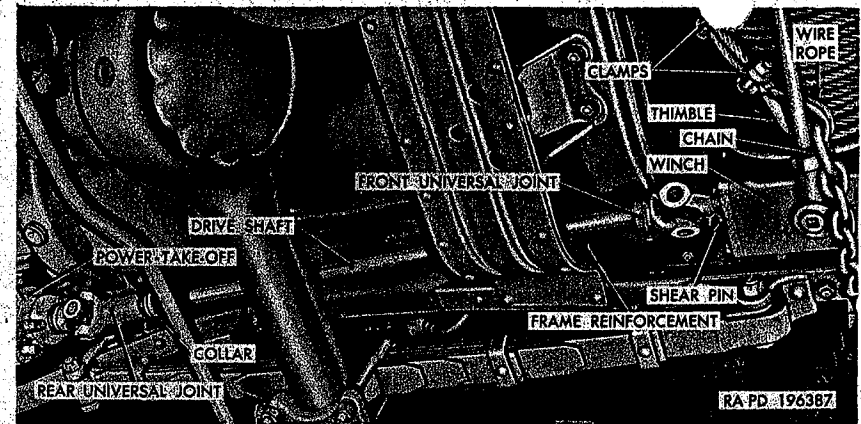

Figure 154. Winch drive shaft and universal joints.
- (1) If the drive shaft (fig. 154) is equipped with a collar, remove the locking wire from the collar setscrew, loosen the setscrew, and slide the collar forward.